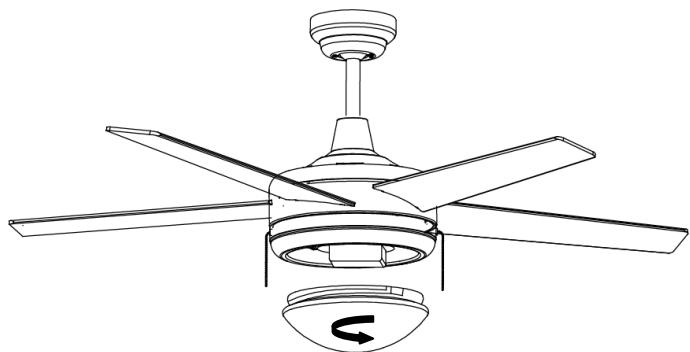

Fig. 8
- Carefully install the glass shade into the light fitter and twist clockwise to lock it.(Fig 8)